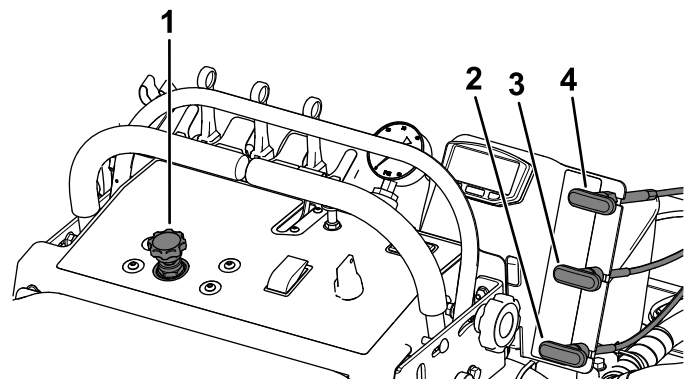

Figure 30
2. Rotate the knob of the impeller-speed control to run the impeller motor (Figure 30).